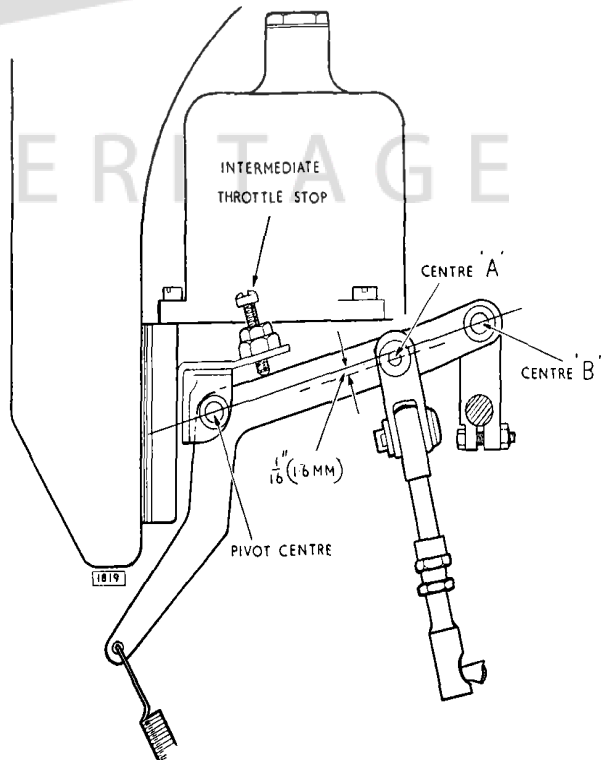

Fig. 19. Throttle control linkage setting.
- (ii) Unscrew intermediate throttle stop and push down on bell crank lever until centre "A" is $\frac{1}{16}$ " (1.6 mm.) below a line from centre "B" to pivot centre (Fig. 19). When in this position screw down stop on to intermediate throttle lever and lock in position. Lock lever to carburetter spindle.